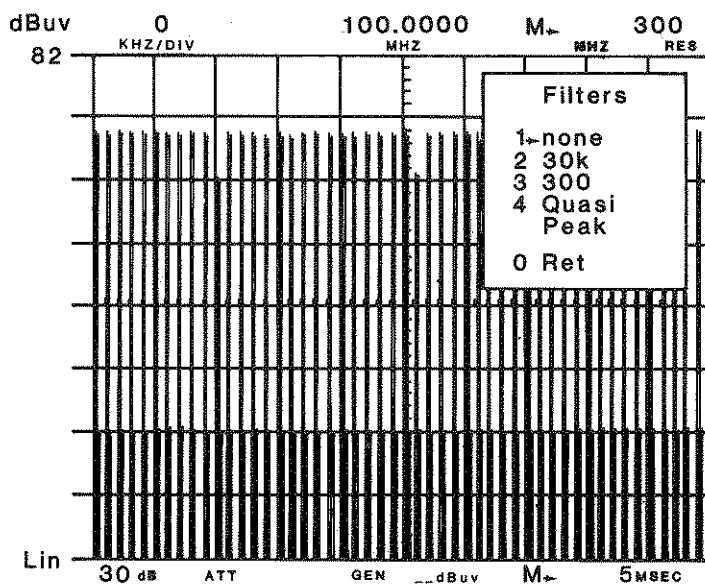

Figure 8-11 Frequency in Question Before Quasi-Peak
8. Use the SCAN WIDTH DOWN "↓" key to set the Scan Width to zero. Return to the Master Menu and select the FILTERS Menu (Press: "0" "4" ). See Figure 8-11.